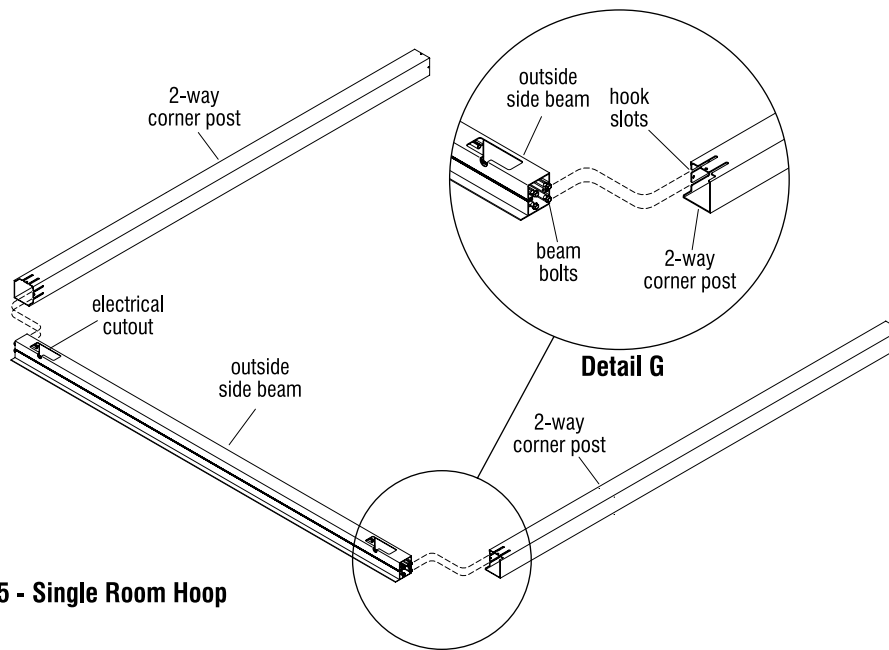

Figure 5 - Single Room Hoop
8. Single room super structure unit "hoops" will consist of two, 2-way corner posts bridged by an outside side beam. The outside side beam can be identified by the electrical cut-outs near the ends if panels are equipped with electrical. If no panels have electrical, the outside side beam will not have electrical cutouts. Reference KI quote drawing (or shop print if modified product) and locate the correct outside beam for the super structure section being assembled (Figure 5).
9. With the 2-way corner posts cut to the correct length, and the appropriate outside side beams located and identified per the previous steps, lay the corner posts and beam down, taking care to not damage or scratch them. Position the posts and outside side beams down with the outer sides face down, as illustrated to nest together. The outside side beam larger flange must face against the floor, and the electrical cut-outs (if applicable) should face up, or inward to the unit when installed (Figure 5 & Detail G).
10. Beams are shipped with four factory installed bolts inside the ends, which are intentionally left backed-out 1/2" to help with nesting the bolts of the beam into the slots of the posts. Assemble outside side beam to each of the two corner posts as illustrated to form a "hoop", but do not tighten the bolts at this time (Figures 5, 6 & Detail G).
11. Repeat the steps above to assemble the second beam to corner posts "hoop" assembly, required for the super structure (Figures 5 & 6)